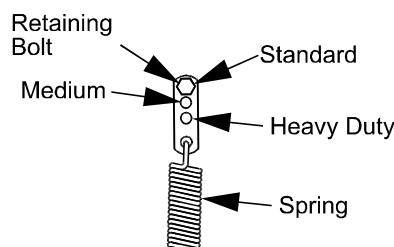

FIGURE 16
- b) For a heavier drive setting, relocate the spring anchor link to either the “medium” or “heavy duty” positions as shown in Figure 16. The spring anchor links are attached to the upper rear corner of the hydro drive shields on the left and right hand sides of the machine.